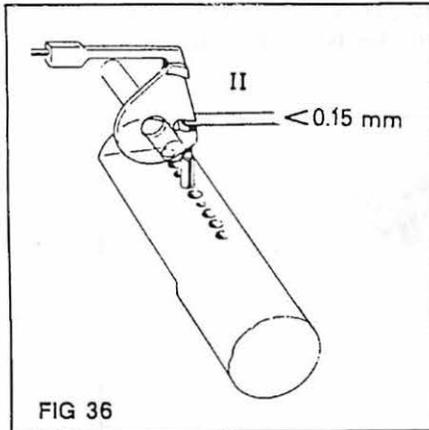

FIG 36
- check that the play between the punch pin and the pin driver is less than 0,15mm. Use the feeler gauge II. (FIG 36)